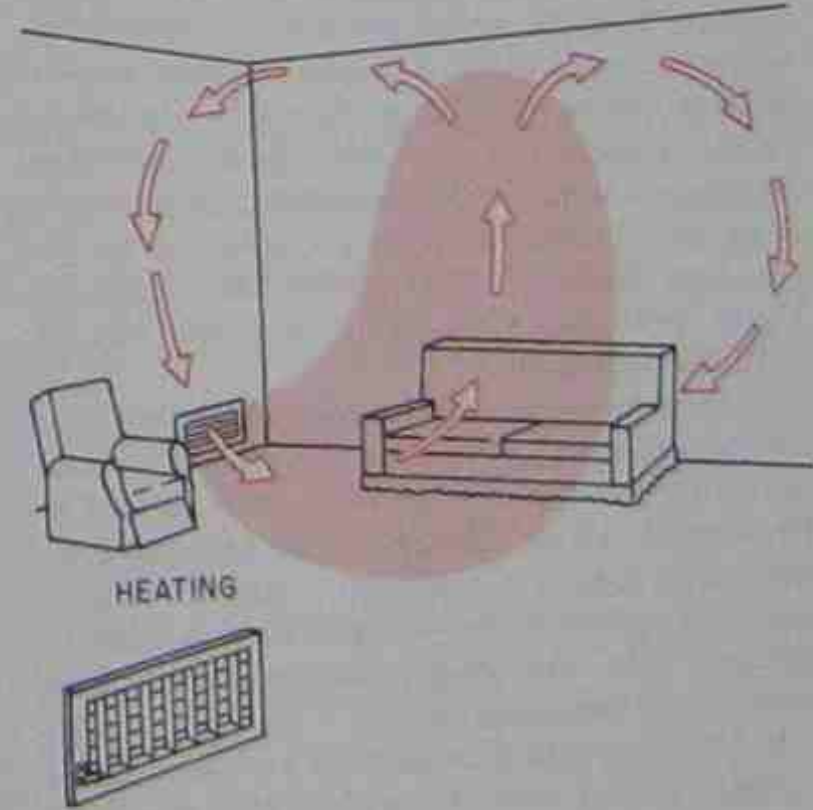

Figure 39-48. Warm air distribution.
2. Warm air for heating distributes better from the floor because it tends to rise, Figure 39-48.